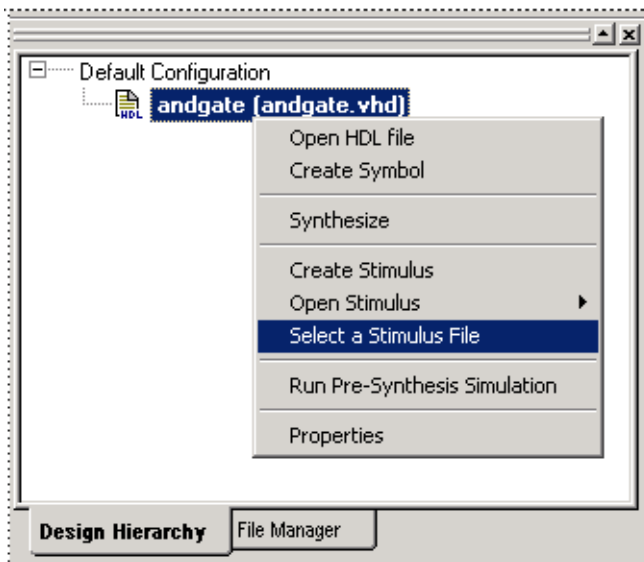

Figure 5-10. Selecting a Stimulus File
1. Select a stimulus file. Right-click *andgate* in the Libero IDE Design Hierarchy tab and select “*Select a Stimulus File*”, as shown in Figure 5-10.